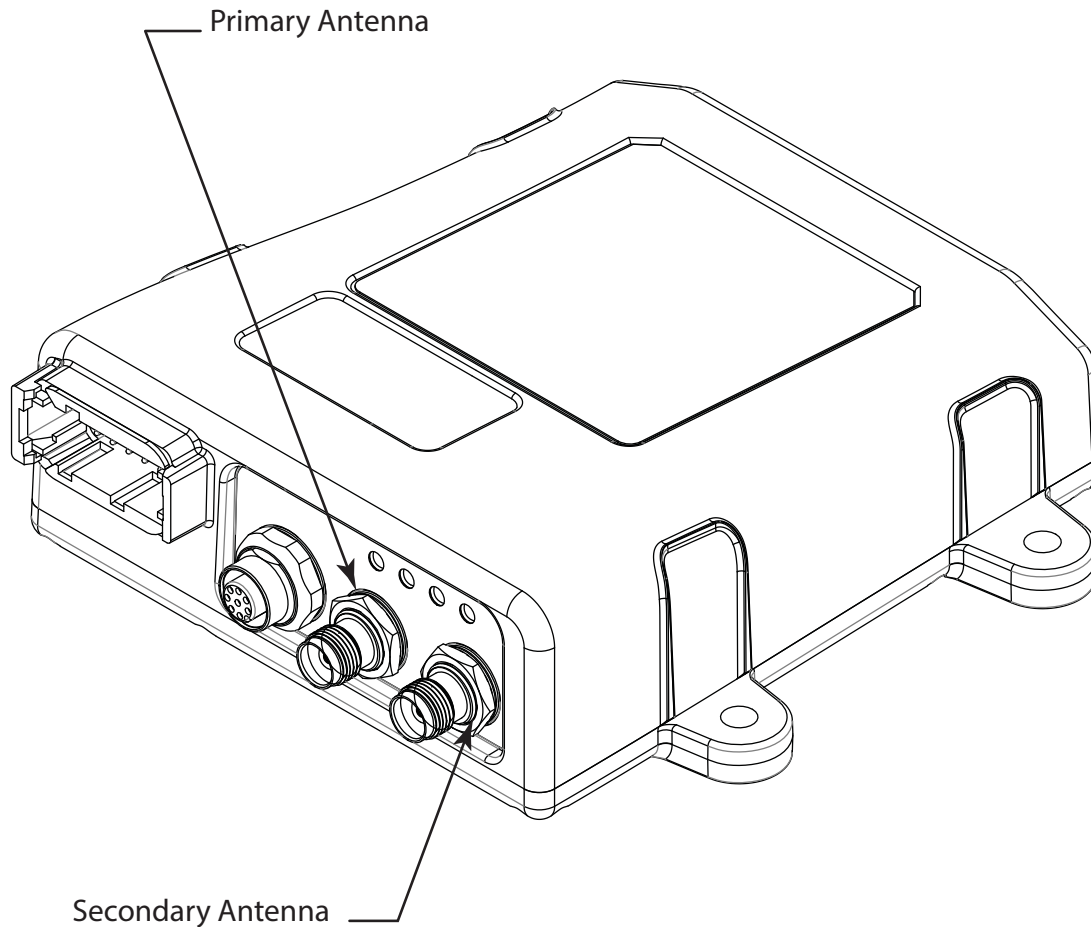

Figure 15: Antenna Connectors
2. Connect the primary antenna cable to the rear antenna and to the primary antenna connector (Figure 15) of the MR-2.